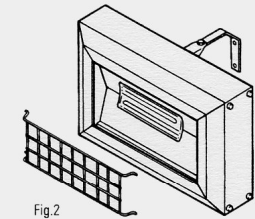

Fig.2
3. Remove the guard by flexing it slightly (Fig. 2).